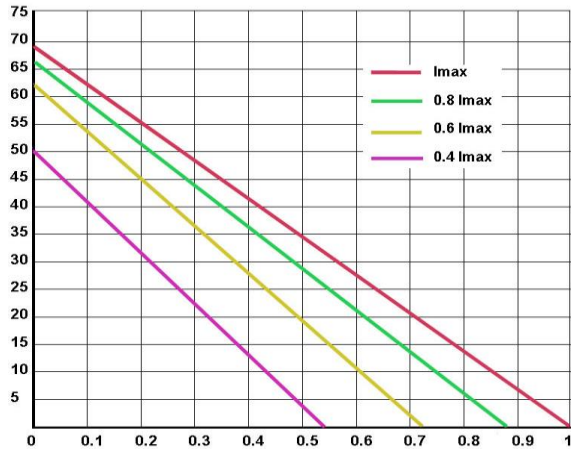
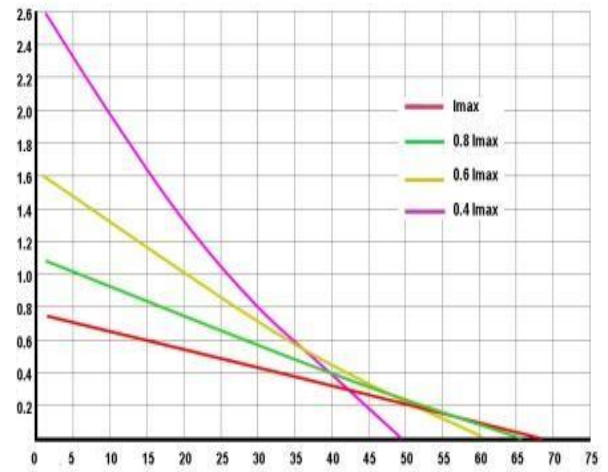

Figure 2. Temperature Difference vs.  $Q_{MAX}$
Figure 5. C.O.P vs. Temperature Difference
5. Use the charts provided in Figure 2 to Figure 5, to decide which TEC to use, what is the heat needed to be dumped through the heat sink, what is the heat sink temperature, etc.